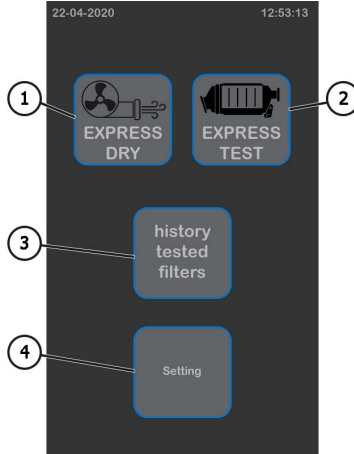

Figure 6. MS900A main control screen
Module MS900A has two operating modes (see Fig. 6): filter drying (item 1) and filter diagnostics (item 2). The module maintains a history of serviced filters (item 3). Module settings are adjusted in the corresponding menu (item 4).